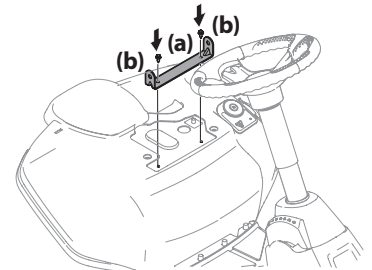

Figure 6
3. Align the seat bracket (a) in place over the holes from where the self-tapping bolts (b) were removed, as shown in Figure 6.
4. Using a 1/4" drive ratchet with a 3/8" socket, secure the seat bracket (a) with the self-tapping bolts (b) removed in step 2. See Figure 6.